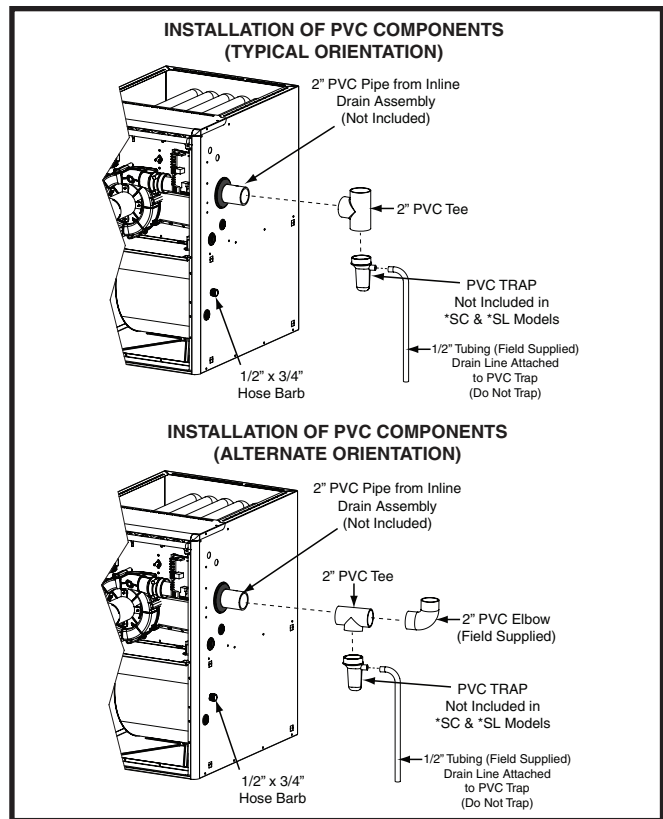

Figure 19. PVC Components
- The 2" PVC components shown in Figure 19 are not provided in the extra parts bag for *SC & *SL models. However the PVC Trap (P/N 664659) can be purchased thru your local distributor.
The 2" PVC tee, reducer, PVC Trap and 1/2" X 1/2" hose barb are used when the inducer is rotated to vent out thru the left or right side of the furnace cabinet. See Figure 19.
1. Install the PVC Tee vertically on the 2" vent pipe that is extending out the side of the cabinet. Permanently bond them together using appropriate primer and cement. Refer to the typical orientation shown in Figure 19.
1. Install the 2" PVC Tee horizontally on the 2" vent pipe that is extending out the side of the cabinet. Permanently bond them together using appropriate primer and cement. Refer to the alternate orientation shown in Figure 19.